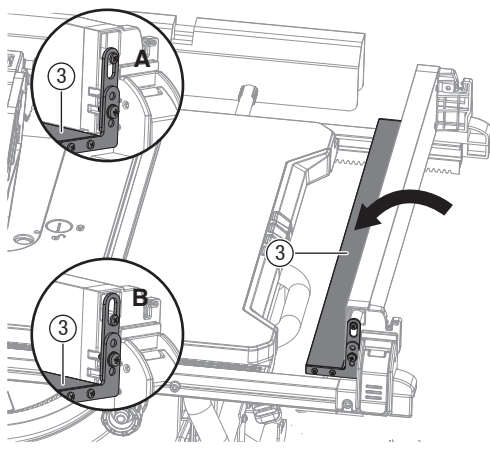

Fig. 19b
### Narrow fence (Fig. 19b)
- When using the narrow fence (3) to support a workpiece that extends beyond the working table, rotate the narrow fence (3) as shown in (Fig. 19b) and secure it in the lowest position A for both the front and back slots.
- When using the narrow fence (3) to cut a narrow workpiece, rotate the narrow fence (3) as shown in (Fig. 19b) and secure it in the upper position B for both the front and back slots.
**NOTE:** If the narrow fence is not required, always place it in the position C as shown (Fig. 19b).
**NOTE:** The narrow fence (3) for cutting a narrow workpiece can provide more space for a push stick without removing the blade guard.